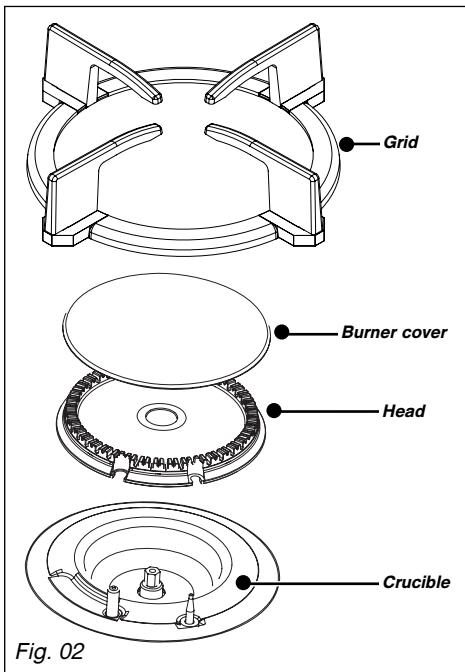

Fig. 02
- Draw a line on the burner plate using a pencil, as shown (Fig. 02).
— **Unscrew** the central injector located at the base of the burner unit Using a No.10 spanner, (see **A**) and using a No. 7 spanner, unscrew the 3 injectors located around the central injector (see **B**) (*Fig.02*).